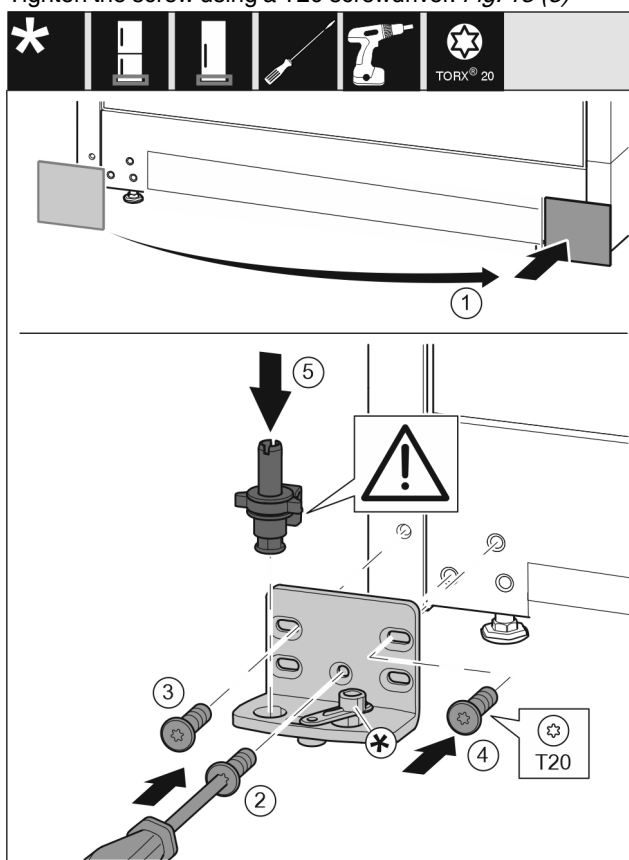

Fig. 14
- ▶ Remove the cover and fix it on the other side. Fig. 14 (1)
- ▶ Place the bearing bracket on the other side and screw it on with a T20 screwdriver. Start with screw 2 at the bottom in the middle. Fig. 14 (2)
- ▶ Screw in screws 3 and 4 tightly. Fig. 14 (3,4)
- ▶ Insert the bearing pin completely. Make sure that the latching lug is pointing to the rear. Fig. 14 (5)